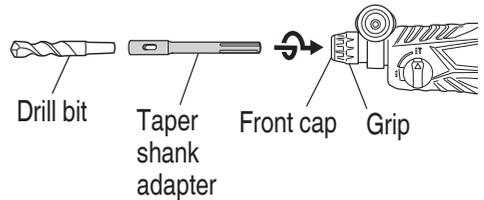
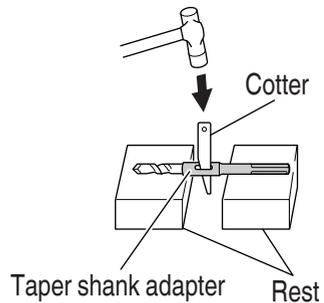

Fig. 12
Fig. 13
- (1) Mount the taper shank adapter to the rotary hammer (Fig. 12).
- (2) Mount the drill bit (taper shank) to the taper shank adapter (Fig. 12).
- (3) Turn the switch ON, and drill a hole in prescribed depth.
- (4) To remove the drill bit (taper shank), insert the cotter into the slot of the taper shank adapter and strike the head of the cotter with a hammer supporting on a rests (Fig. 13).